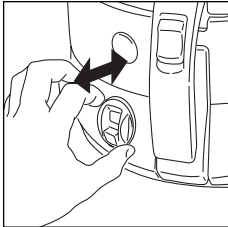

fig. 5
- Remove the minute timer from its compartment (fig. 5).